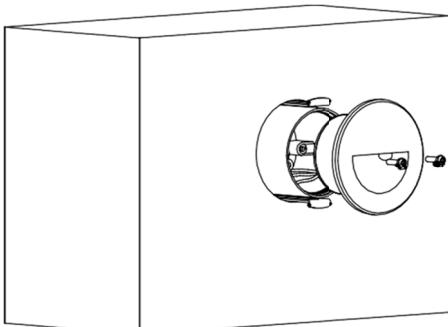

FIG. 8a
8. For installation into masonry, it is important that the fixture be completely sealed. Attach metal conduit to the canopy, then use mortar to secure canopy in place.(Figs. 8a 8b)